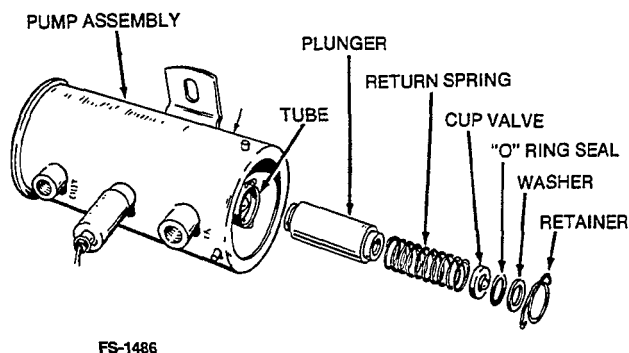

FIGURE 21. REMOVAL OF PLUNGER ASSEMBLY
3. Using a thin nose pliers, remove the retainer spring from the plunger tube. Remove the washer, "O" ring seal, cup valve, plunger spring and plunger from tube (Figure 21).